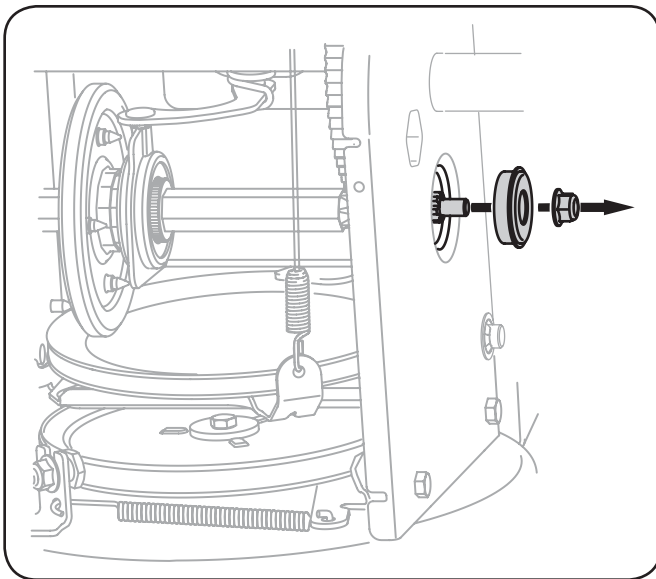

Figure 8-9
5. Carefully remove the hex nut which secures the hex shaft to the snow thrower frame and lightly tap the shaft's end to dislodge the ball bearing from the right side of the frame. See Fig. 8-9.